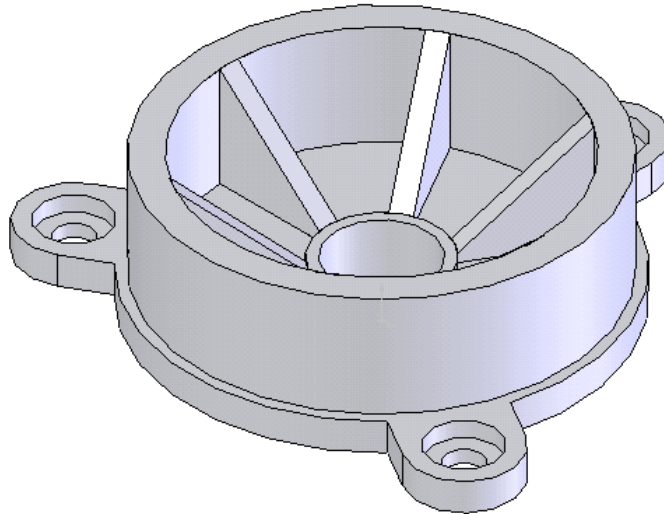
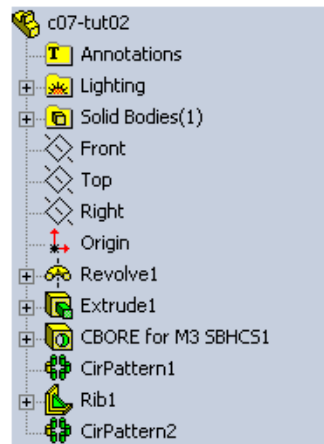

Figure 7-83 Final solid model
Figure 7-84 The FeatureManager Design Tree
- Pattern the rib feature along a temporary axis using the circular pattern tool, refer to Figure 7-83.
5. Using the **Circular Pattern** tool, pattern the rib feature with 6 instances of the rib feature. The final model after creating all the features is shown in Figure 7-83. The **FeatureManager Design Tree** of the model is shown in Figure 7-84.